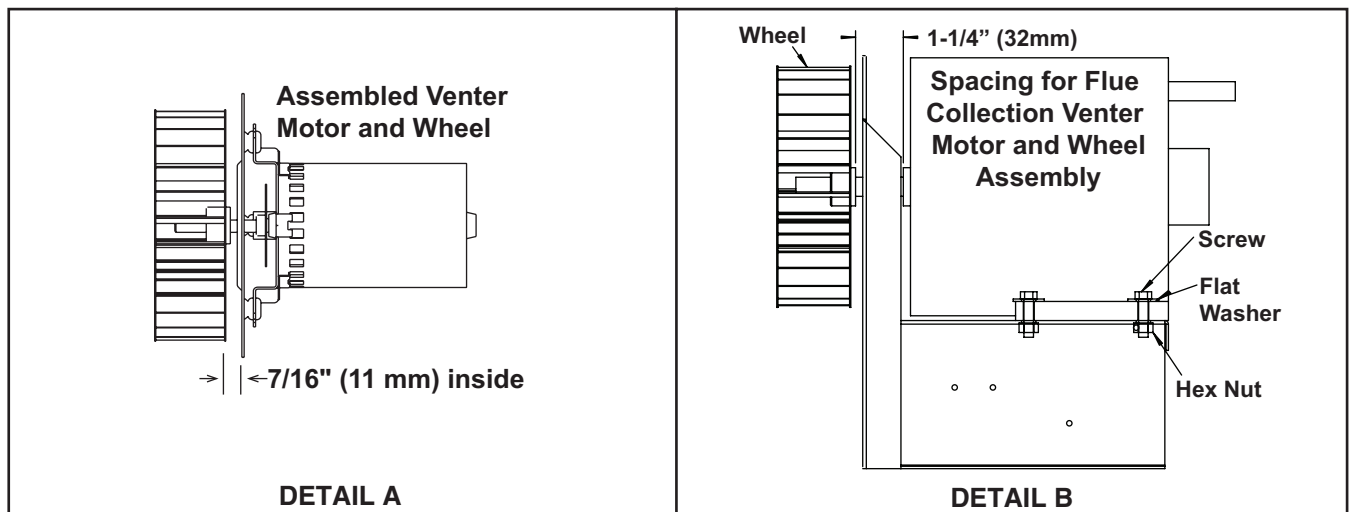

Figure 21. Venter Motor and Wheel Assemblies
5. Reassemble with replacement venter motor and wheel assembly (see Figure 21, DETAIL A for heat section venter or Figure 21, DETAIL B for flue collection box section venter).